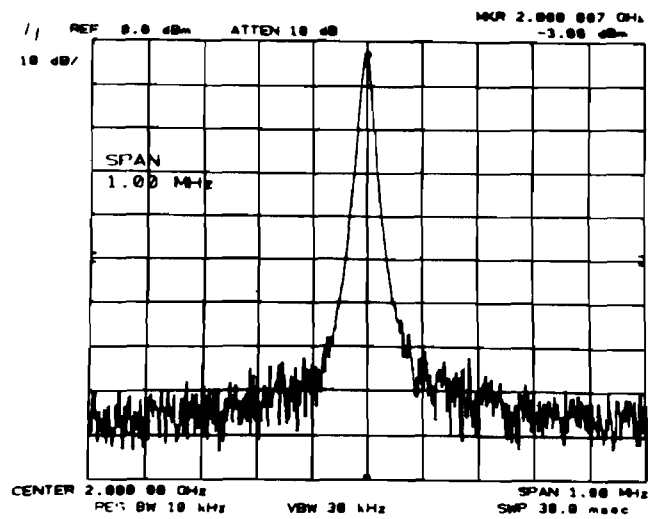

Figure 2-2. Center Frequency Accuracy Measurement
8. Record the CENTER FREQUENCY readout in the table for each setting. The limits for this frequency are given in the table. Refer to Figure 2-2.